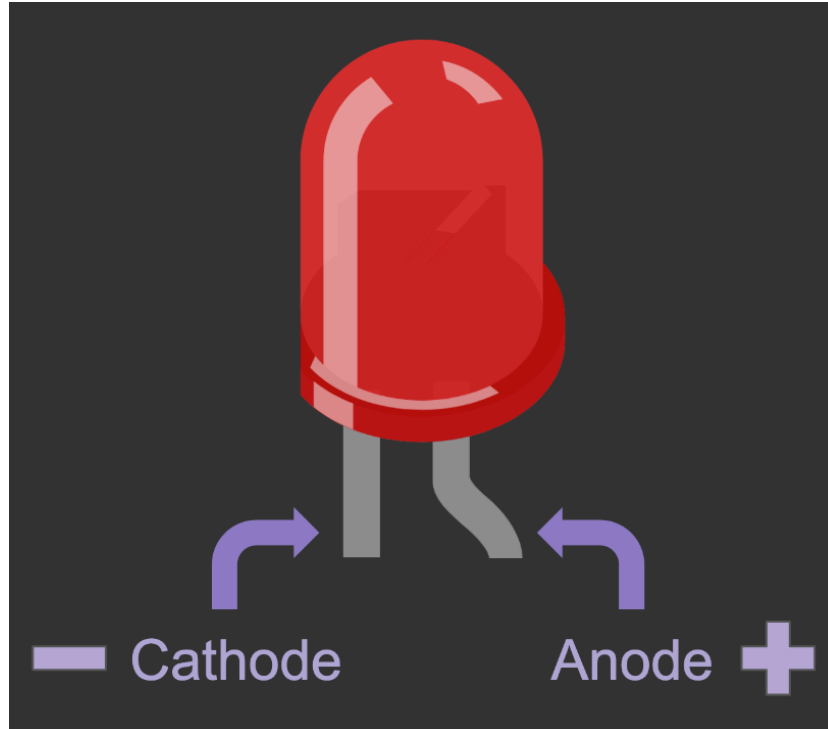

Figure 14: LED **Cathode** and **Anode**
- c. Connect the **anode** of the LED to pin **5** and the **cathode** of the LED to GND. **Note:** Refer to Figure 14 to determine the cathode and anode of the LED.